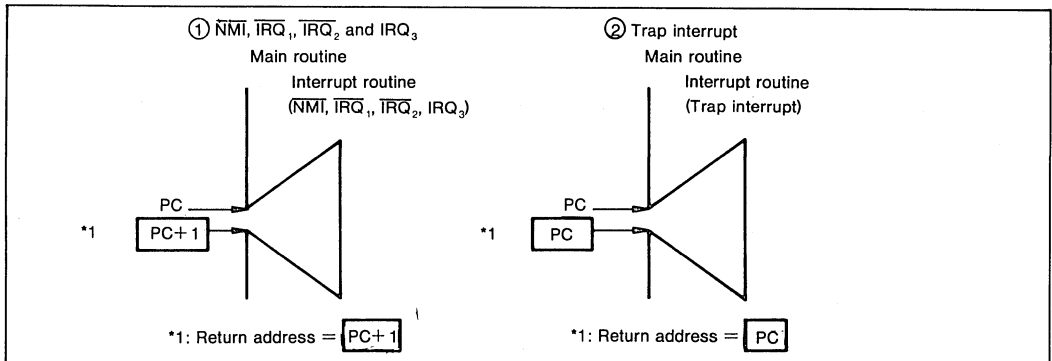

Figure III-7. Return Address
- Return address (figure III-7)